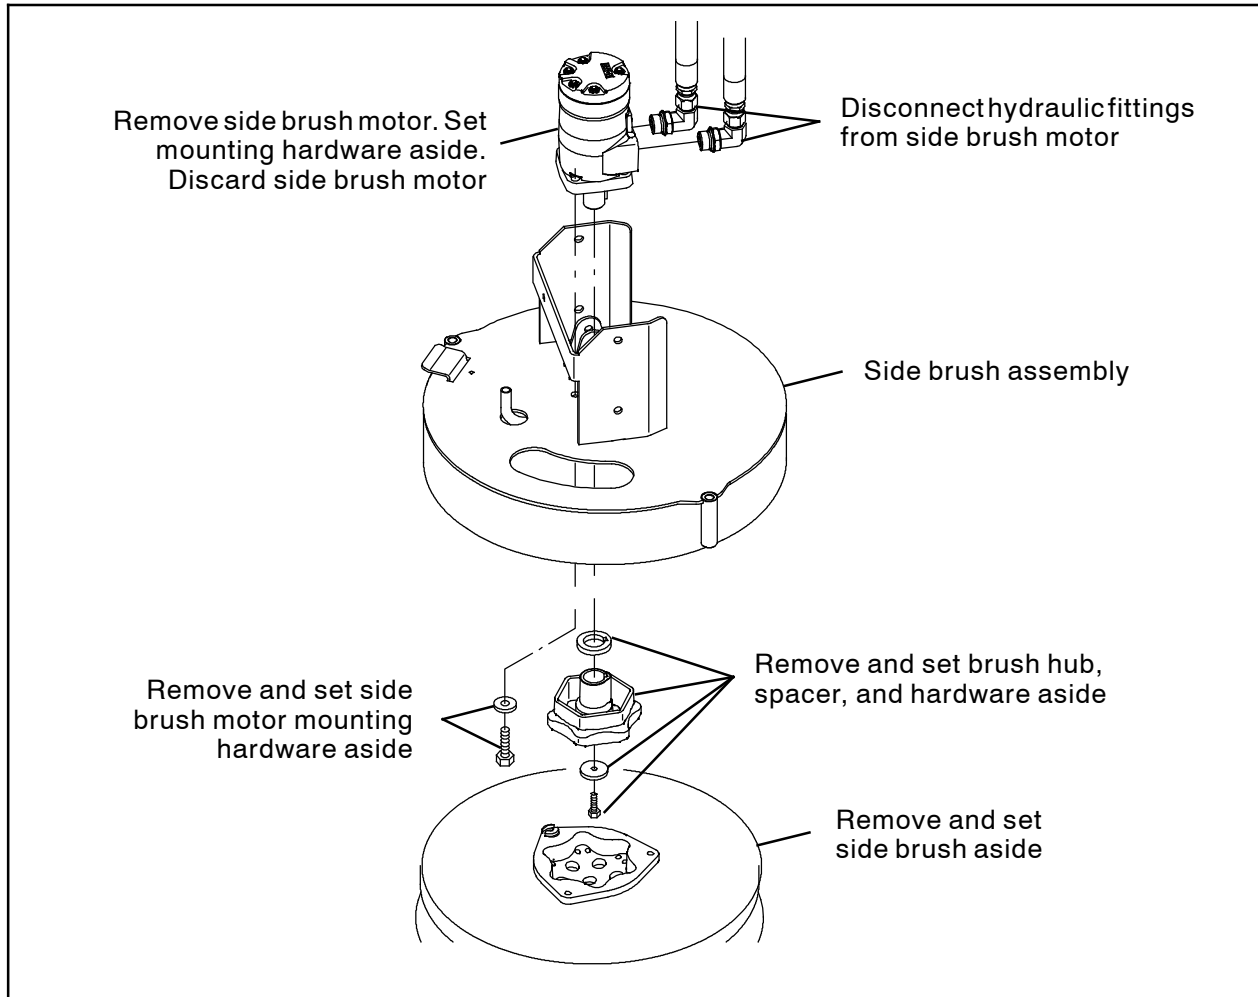

FIG. 1
2. Remove the side brush from the side brush assembly. Set the side brush aside. (Fig. 1)
3. Remove the brush hub from the side brush assembly. Set the brush hub, spacer, and hardware aside. (Fig. 1)
4. Start the machine. Lower the side brush assembly enough to access the hydraulic lines attached to side brush motor, but not too low so it is not possible to access the hardware located underneath the side brush assembly securing the side brush motor to the side brush assembly. Turn off the machine. (Fig. 1)
1. Disconnect both hydraulic hoses from the side brush motor. (Fig. 1)
2. Remove the side brush motor from the side brush assembly. Set the mounting hardware aside. Discard the side brush motor. (Fig. 1)
3. Install the new side brush motor (1) onto the side brush assembly. (Fig. 1)
4. Connect the hydraulic hoses to the new side brush motor (1). (Fig. 1)
5. Reinstall the brush hub onto the side brush assembly. (Fig. 1)
6. Reinstall the side brush onto the side brush assembly. (Fig. 1)